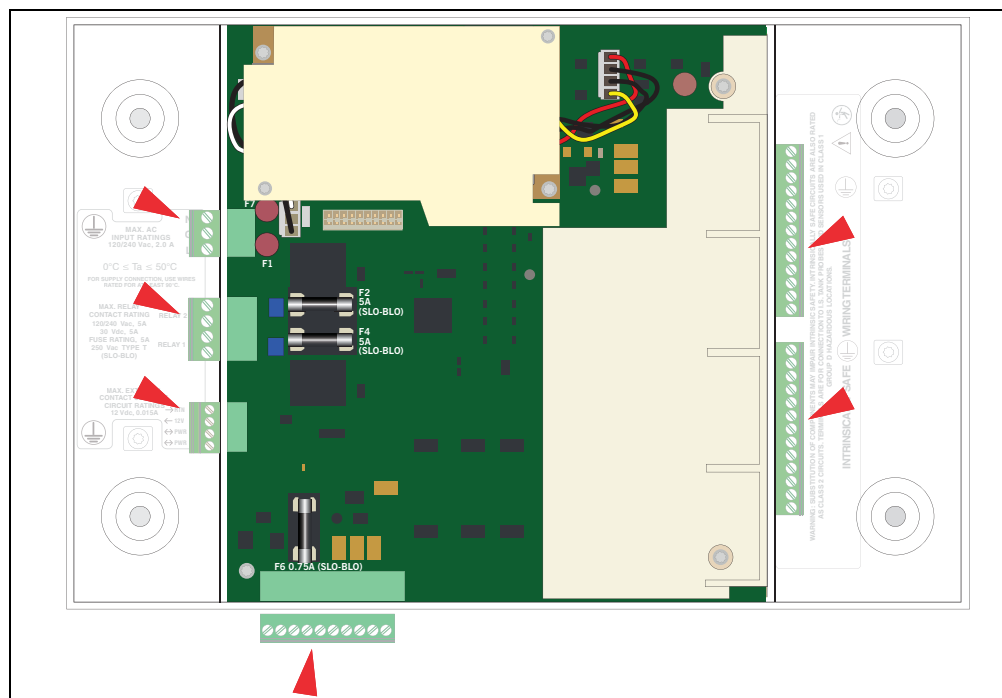

Figure 7. Remove all plugs attached to USIOM board
3. Remove all plugs connected to the USIOM board (see Figure 7).